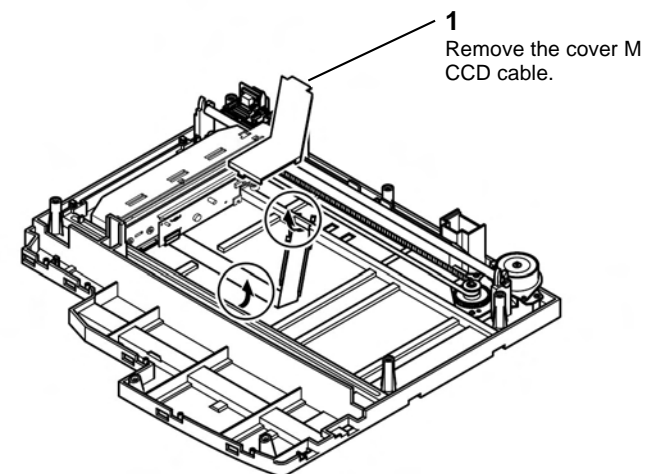

Figure 13 Cover M CCD cable removal
15. Remove the cover M CCD cable, Figure 13.